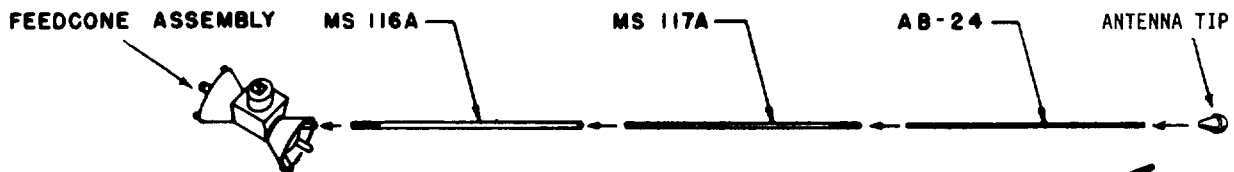

Figure 2-10. Assembling antenna elements.
(2) Coat the screw threads on the AB-24, MS-117A, and MS-116A with anticorrosion compound. Assemble the antenna elements by screwing Mast Sections AB-24, MS-117A, and MS-116A (fig. 2-10) (1 each: AB-24, MS-117A, and MS-116A in each section).
(3) Attach the antenna elements to the feedcone assembly by screwing the male ends on MS-116A into the female sockets located on the feedcone assembly (fig. 2-10). Install antenna tips on each of the antenna elements and secure with electrical tape (item 1, Appx. E.)